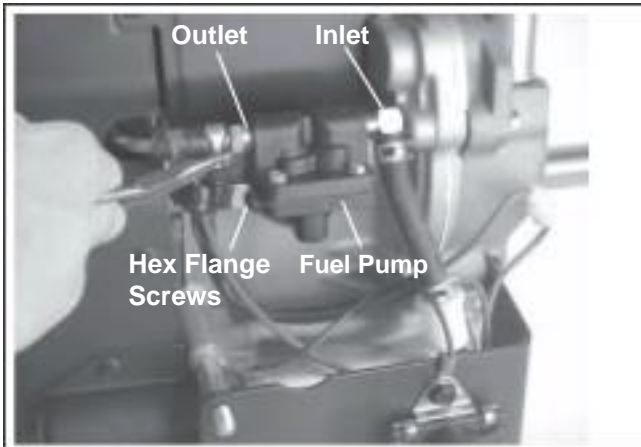

Figure 9-14. Removing Fuel Pump.
1. Disconnect the fuel line from the outlet and inlet fittings of the fuel pump. See Figure 9-14.